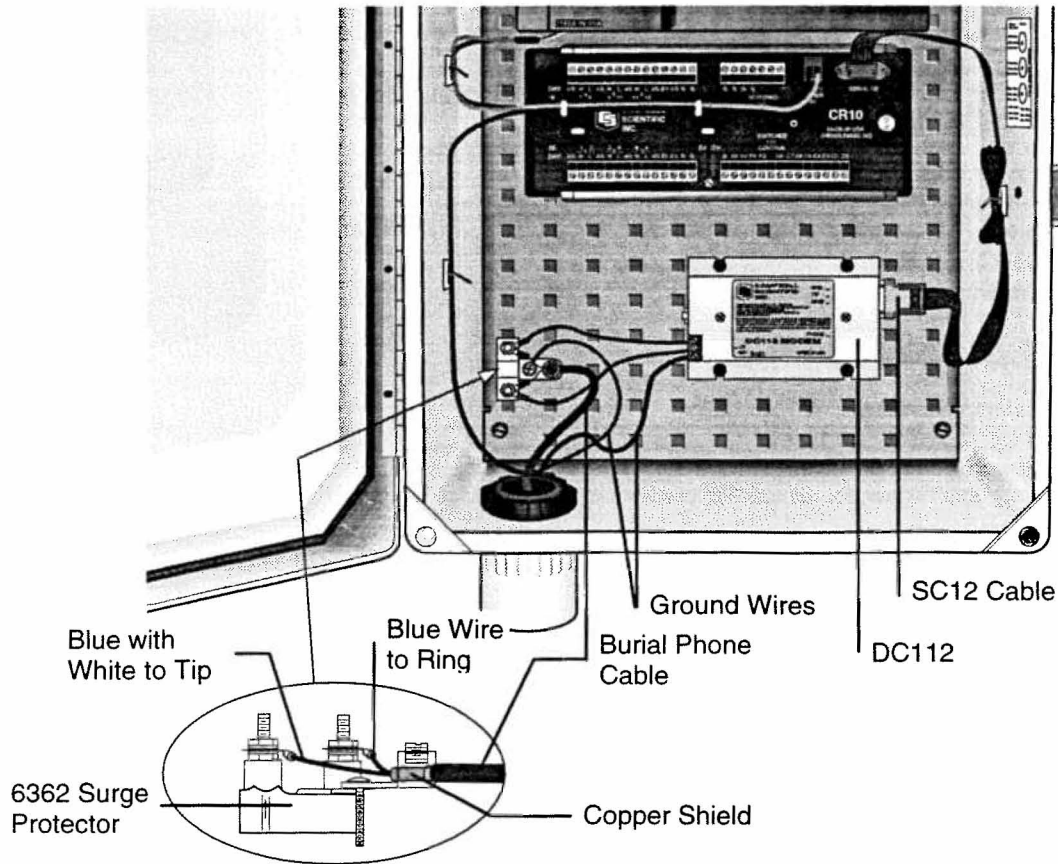

FIGURE 9-3. DC112 Modem with 6362 Surge Protector
3. The telephone company generally provides surge protection, and a patch cord that plugs into the RJ11C jack, or wire that attaches to the "TIP" and "RING" terminals on the DC112 as shown in Figure 9-3. If surge protection has not been provided, the Model 6362 Surge Protector Kit can be installed to the enclosure backplate